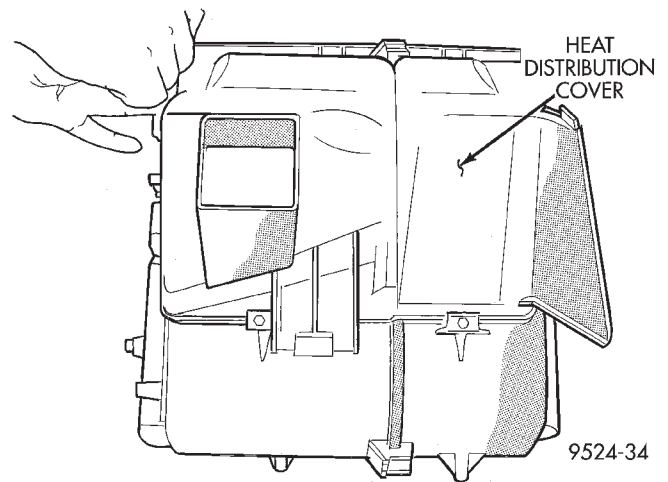

Fig. 68 Distribution Housing
(15) Remove distribution housing lower cover screws (Fig. 68).